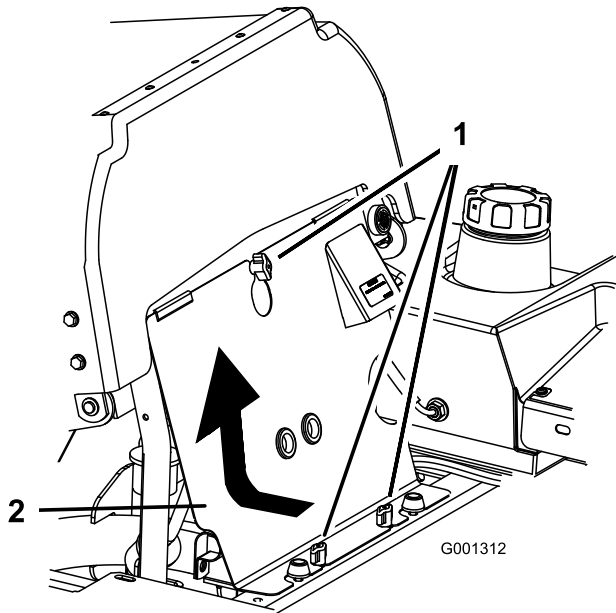

Figure 66
3. Loosen the front engine panel knobs and remove the panel (Figure 66).